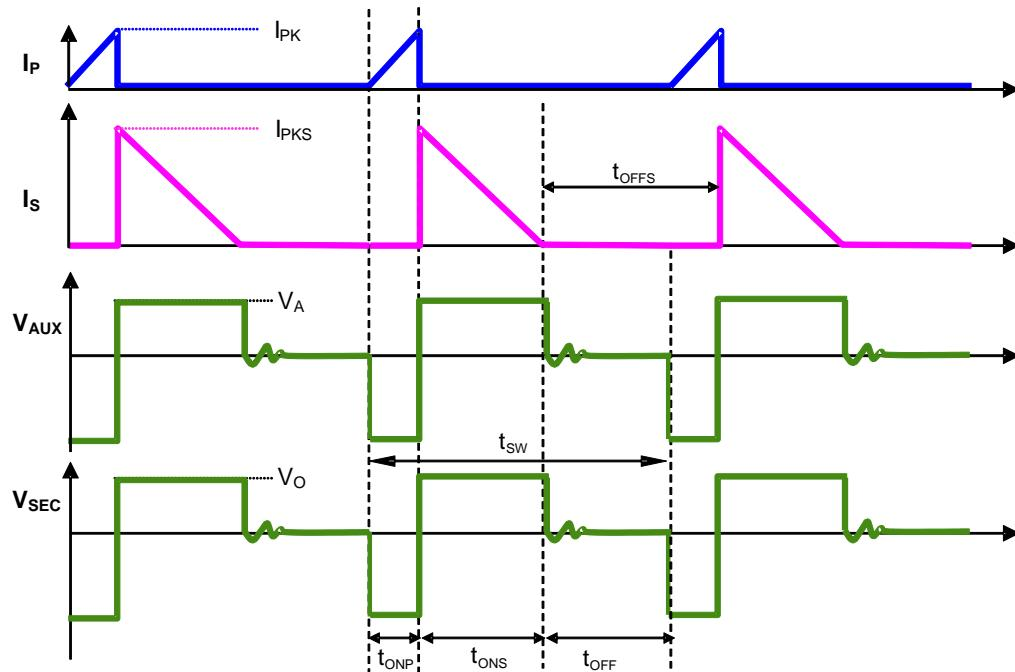

Figure 2. The Operation Waveform of Flyback PSR System
Figure 2 shows the typical waveforms which demonstrate the basic operating principle of AP3783R application. And the parameters are defined as following.
As illustrated in Figure 2, when the current  $i_P(t)$  rises up to  $I_{PK}$ , the switch Q1 turns off. The constant peak current is given by:
The AP3783R can work in constant-current (CC) mode. Figure 2 shows the secondary current waveforms.